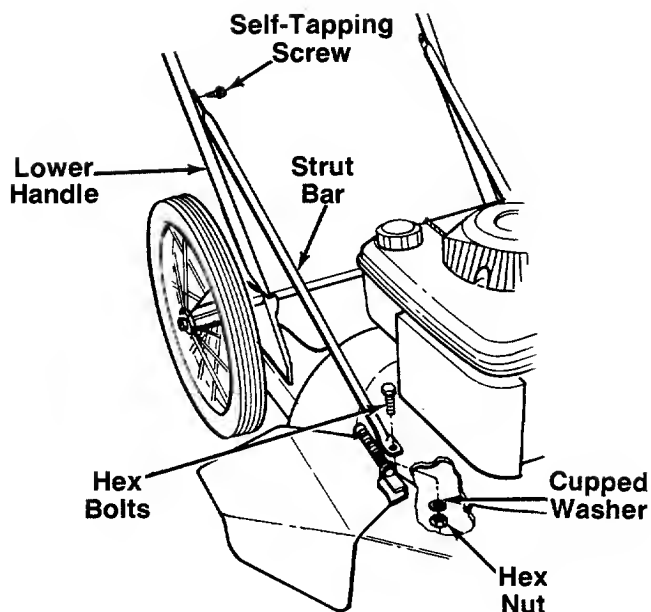

FIGURE 3.
1. Attach the strut bars to the deck with hex bolts, cupped washers and hex nuts as shown in figure 3.
2. Place the strut bars against the inside of the lower handle. Secure using the self-tapping screws. See figure 3. Tighten securely. Tighten hardware on lower end of strut bars securely.